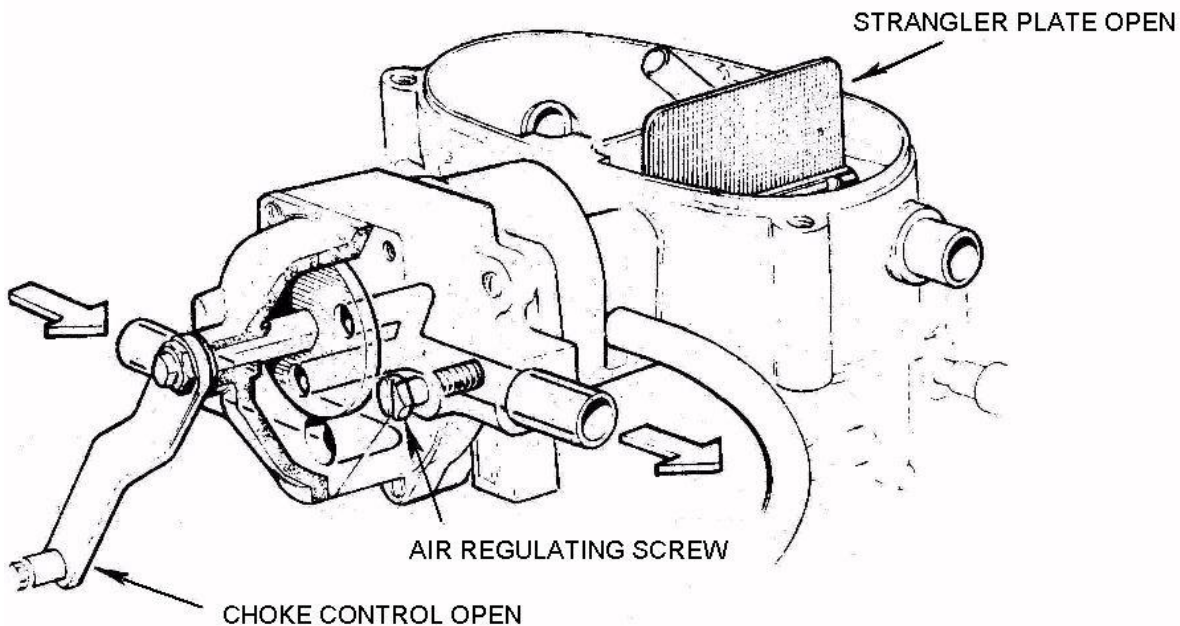

Fig. 16 - Slow Running System
2. Provision for idling with strict control of emissions (Fig. 16)